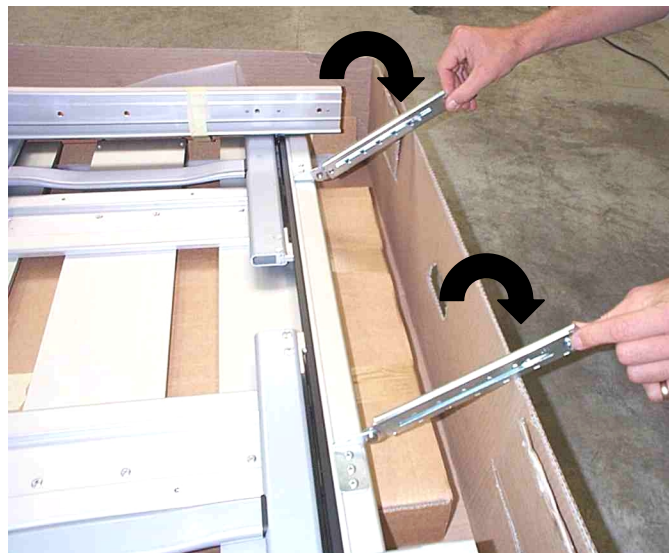

Figure 16
- Swing the RASTOMATEN arms fitted to the foot-end of the mattress-frame over towards the outer wall of the case (see Figure 16).